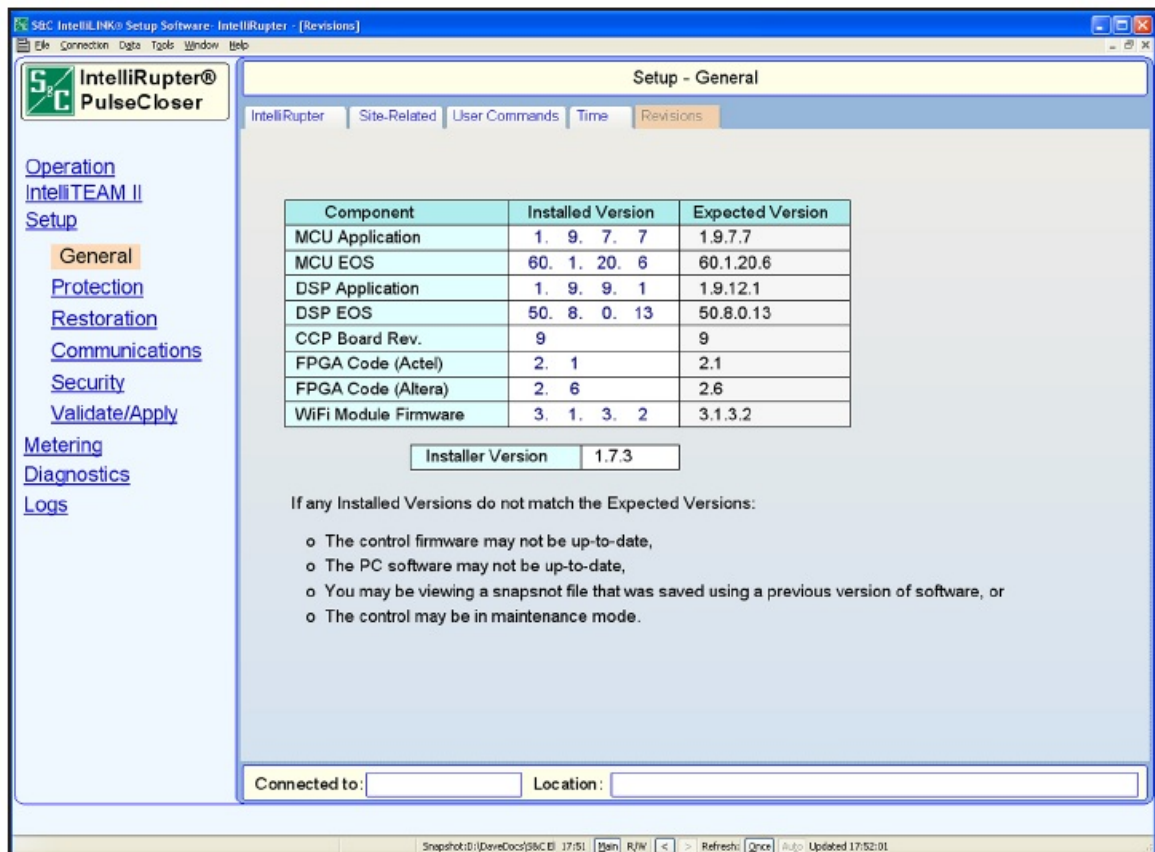

Figure 14. The IntelliRupter Setup>General>Revisions screen.
- **STEP 3.** Check the Setup>General>Revisions screen. See Figure 14. Determine whether the correct firmware has been installed. After verification is complete, change the communication parameters of IntelliLink software back to the default settings.
- **STEP 4.** Locate the Tools menu option at the top of the screen. The communication parameters are on the Tools>Options menu. See Figure 14. Change the Connection Type setting to “UDP/IP” and click on the Save & Exit button. Close the IntelliLink software.